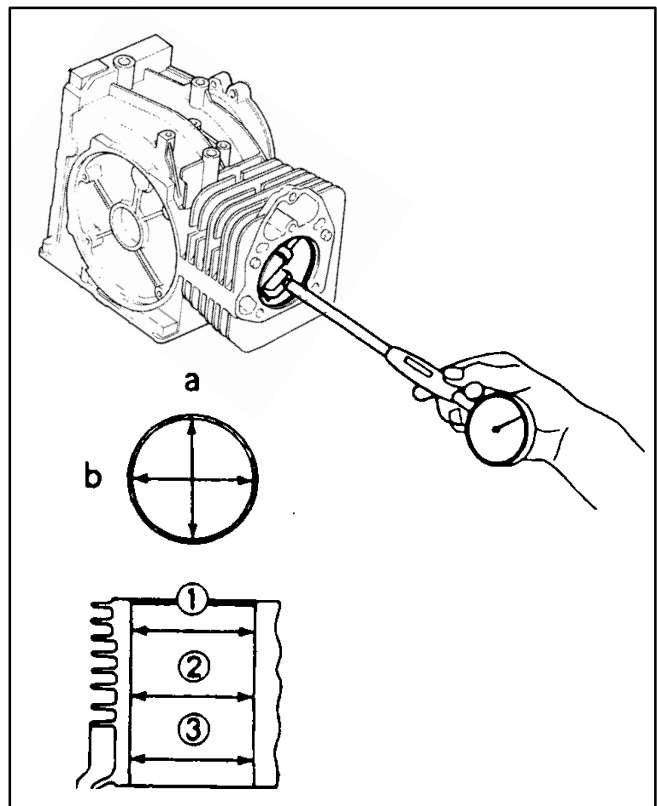

FIGURE 10-20. MEASURING CYLINDER WEAR
1. Measure the ID of the cylinder at six points (Figure 10-20).